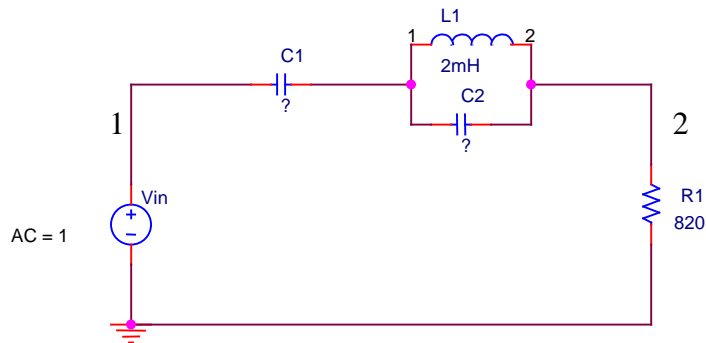
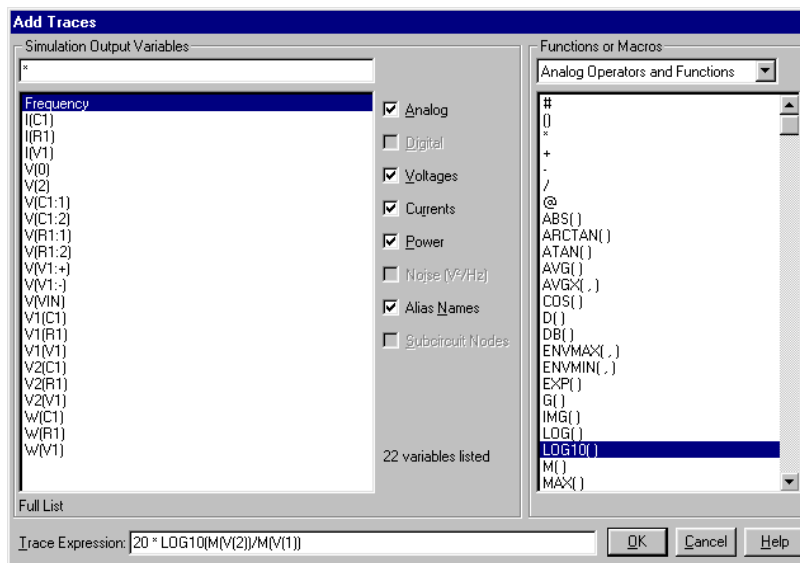

Figure 1 Frequency-Selective Circuit
Figure 2 Obtaining a decibel plot of the output/input magnitude ratio in PSpice.
1. Consider the circuit of Figure 1. The circuit capacitors C1 and C2 are to be chosen so that the circuit effectively transmits a 25-kHz signal and effectively blocks a 50-kHz signal.
2. In PSpice, simulate the circuit of Figure 1 using a sinusoidal source (VSRC with AC=1) whose frequency varies from 10kHz to 60 kHz. The simulation should be set up to do an AC sweep. Obtain a decibel plot of $|V_o/V_{in}|$ (see Figure 2). Use the 'cursor' features of PSpice to show the response of this circuit at the frequencies of interest.
1. Construct the circuit of Figure 1. Use the components based on the Prelab. Adjust the input for 5 V (peak; or 10 V peak to peak) sinusoidal. For the source frequency varying from 10kHz to 60 kHz, measure V_0 and V_{in} for 20 different frequencies using Oscilloscope. In particular, carefully record the output voltages near the frequencies of interest (20 kHz and 50 kHz).